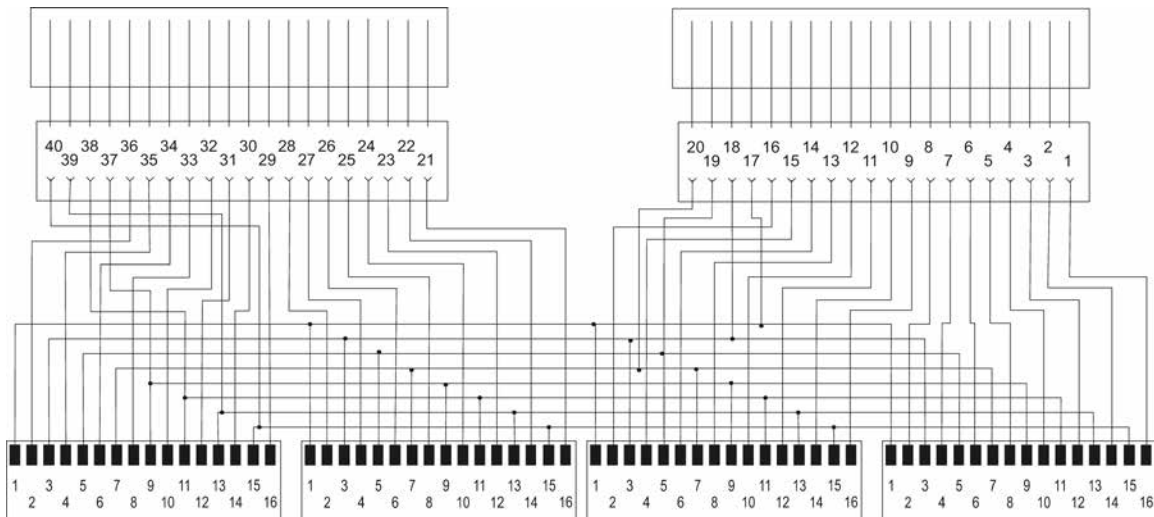

Figure B-3 6ES7921-5AK20-0AA0
- Final page: exact-model circuit diagram, original Figure B-3, Siemens page 91.